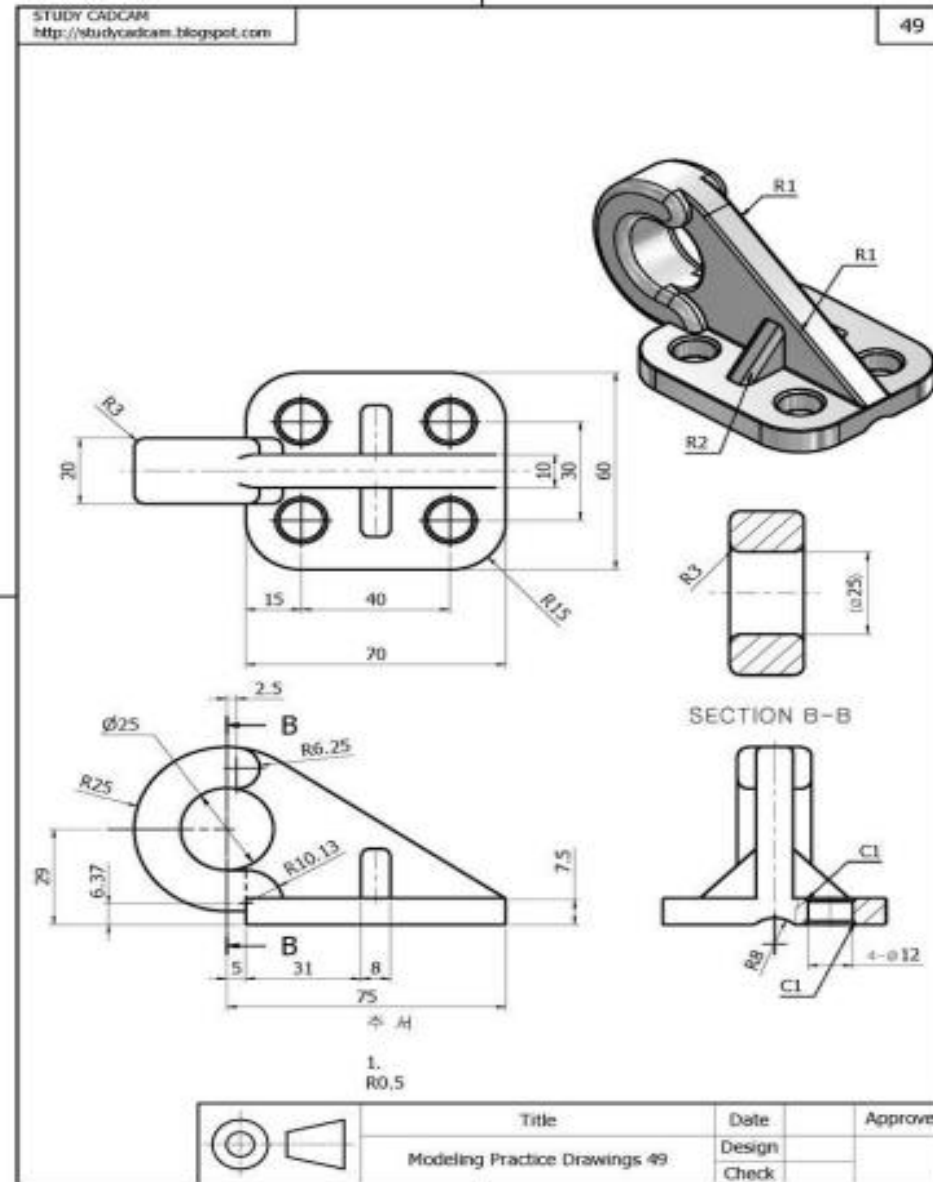

Figure 3.3: Example outputs of computer-aided drafting system for a mechanical drawing
- For example, a customized application program for automating the design of a specific part or mechanism is also considered to be CAD software. Figure 3.3 shows a mechanical drawing generated by computer aided drafting, a typical CAD software.